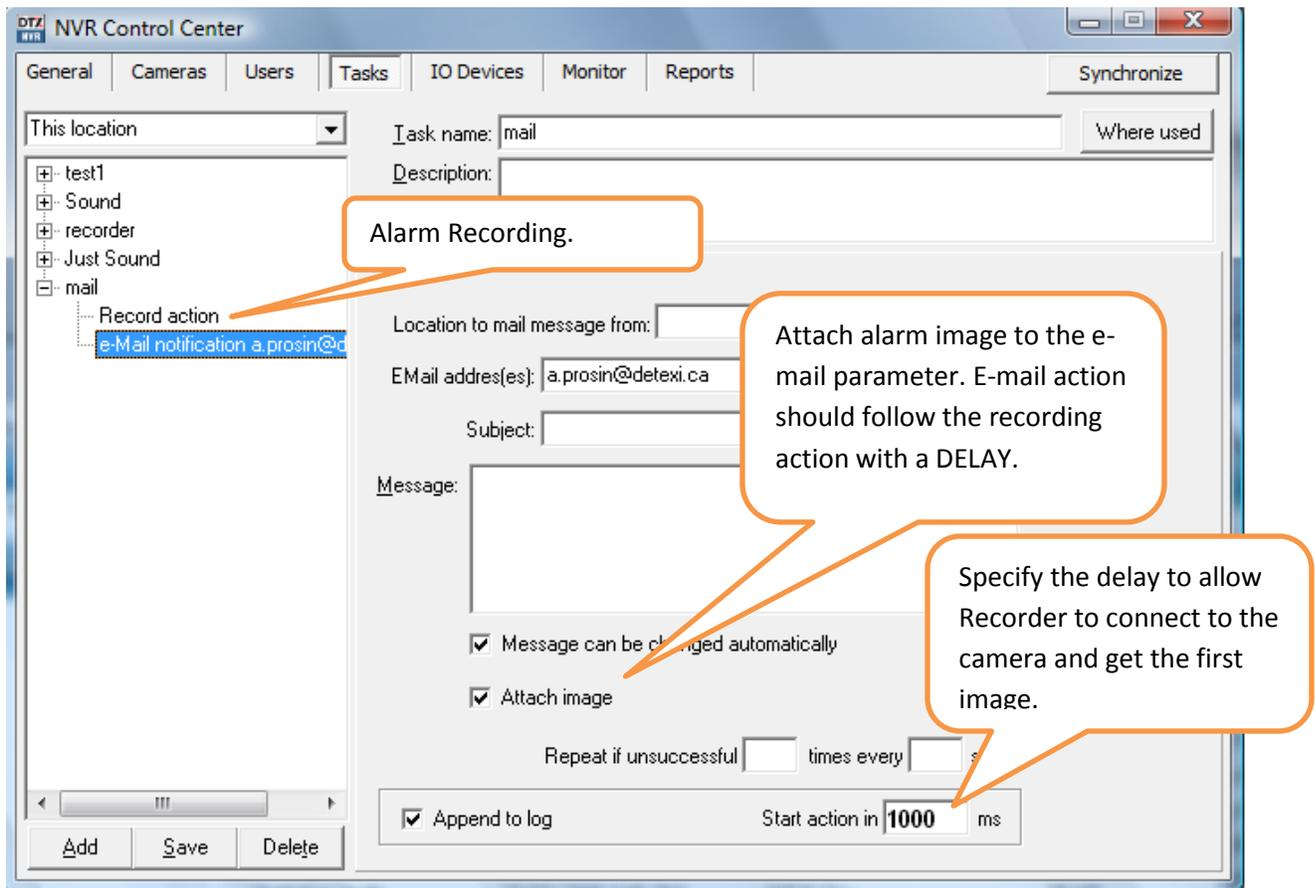

Fig 5. NVR Control Center — Tasks (*Attach alarm image to the e-mail*).
- E-mail task has additional “Attach Image” parameter that allows attaching alarm image to the e-mail (see Fig 5). E-mail action should follow the recording action with a DELAY to allow Recorder to connect to the camera and get the first image.